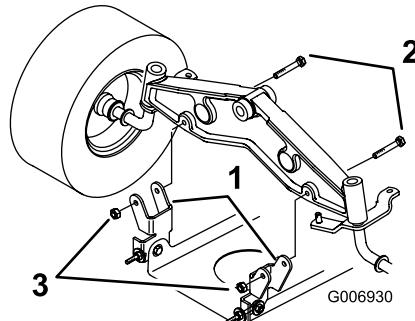

Figure 41
7. Install the mower pivot mount brackets onto the front axle with the bolts and locknuts (Figure 41).